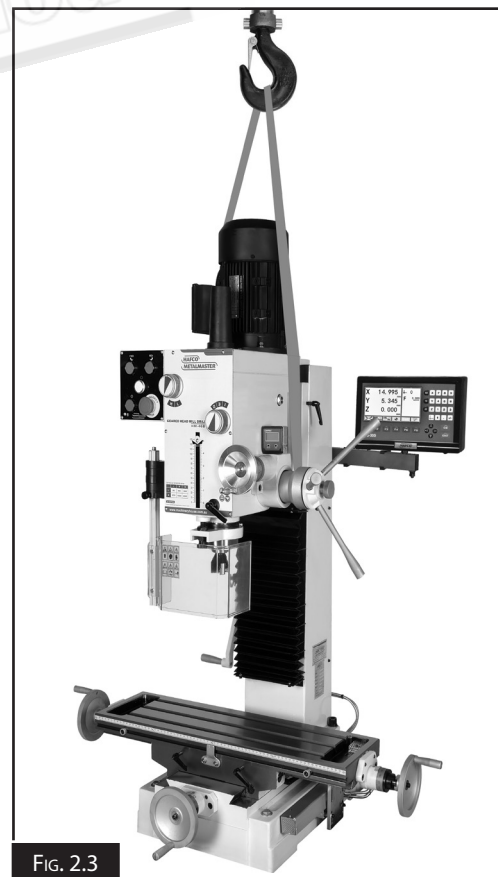

Fig. 2.3
4. Place a lifting strap under headstock, as shown in Fig. 2.3, connect strap ends to a forklift or hook, then lift and place machine on the workbench or on the optional stand.